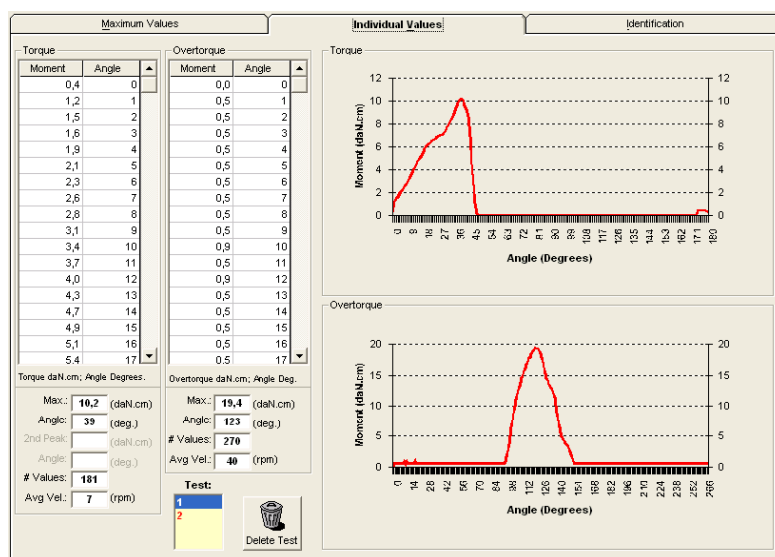

Figure 23– Individual values
- **Individual Values (Figure 23):** this tab displays the individual values of a particular test.